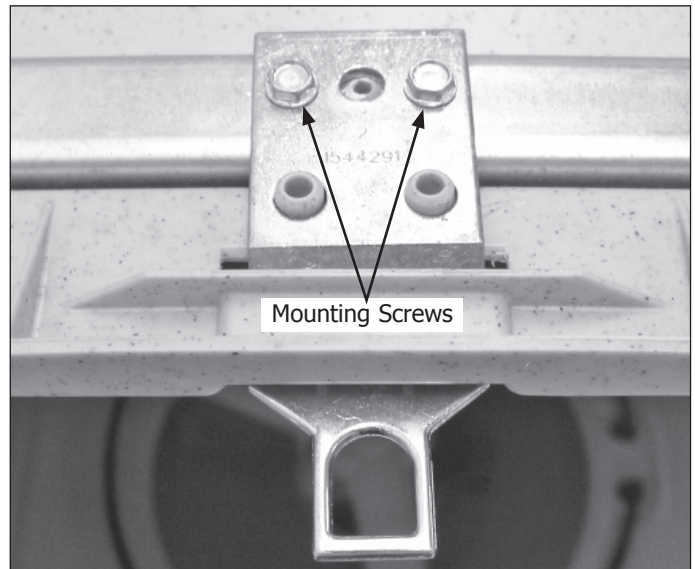

Figure 4-14.
3. Using a 5/16" socket or wrench, extract the two screws securing the door strike to the tub frame. (See Figure 4-14)